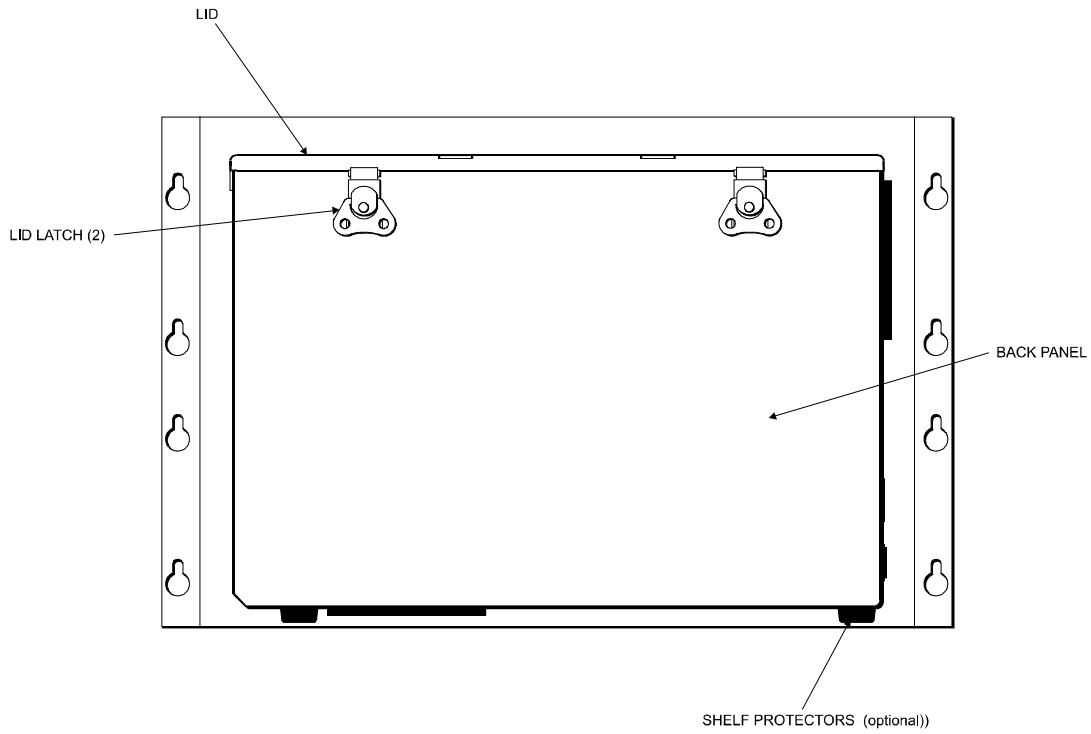

Figure 3-2. 1500 Back Panel
Figure 3-2 illustrates the back panel.
3. Lift the two lid latches to remove the lid (refer to Figure 3-2).